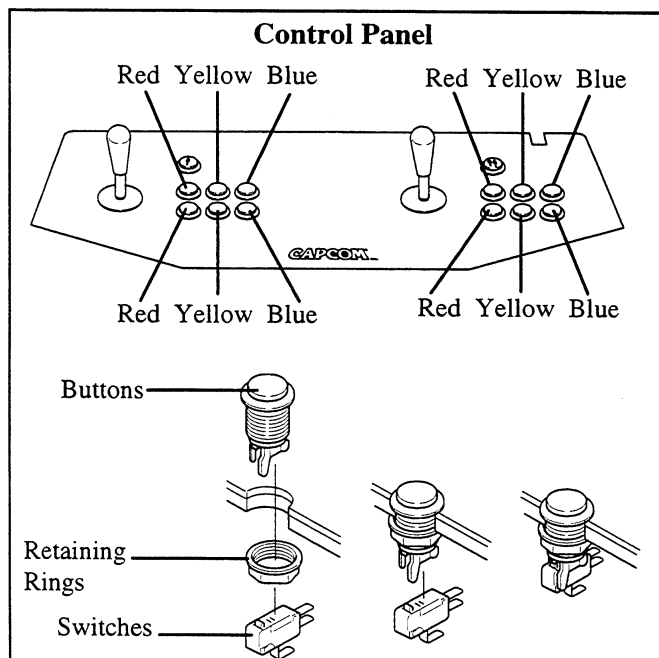

FIGURE 2
15. Install all buttons and retaining rings on the control panel as shown in Figure 2. Install two RED buttons to the immediate right of each joystick, install two YELLOW buttons to the right of the red ones, and install two BLUE buttons to the right of the green ones.
17. Install the switches on the buttons as shown in Figure 2. Orient the switches so that when a button is pressed, the red contact on the switch is depressed.